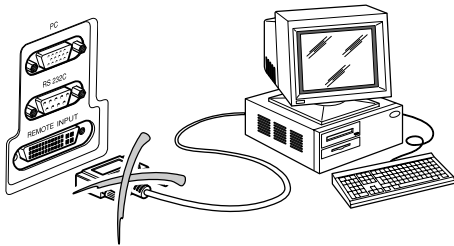

Fig. 4
**Never connect a computer to this socket, as the projector and the computer may be damaged (Fig.4).**